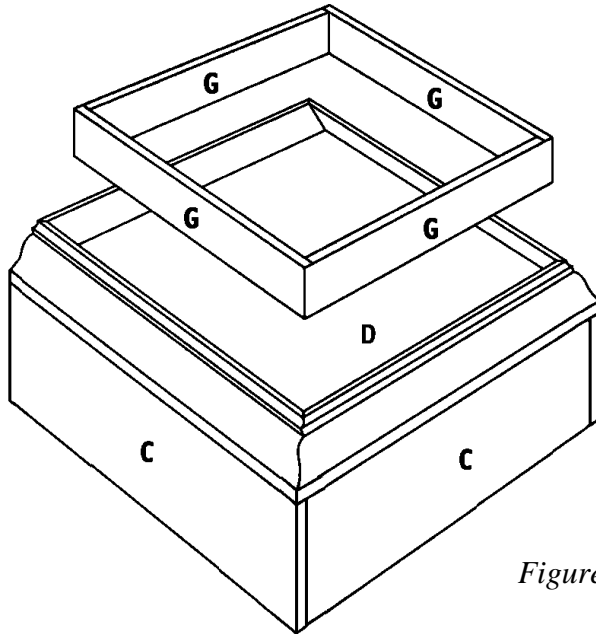

Figure 5
6. Place the assembled Inside Trims (G) inside the crown molding frame, as shown in Figure 5. Apply glue to the meeting surfaces. The glue alone will be all that is needed to hold the Inside Trims (G) in place.